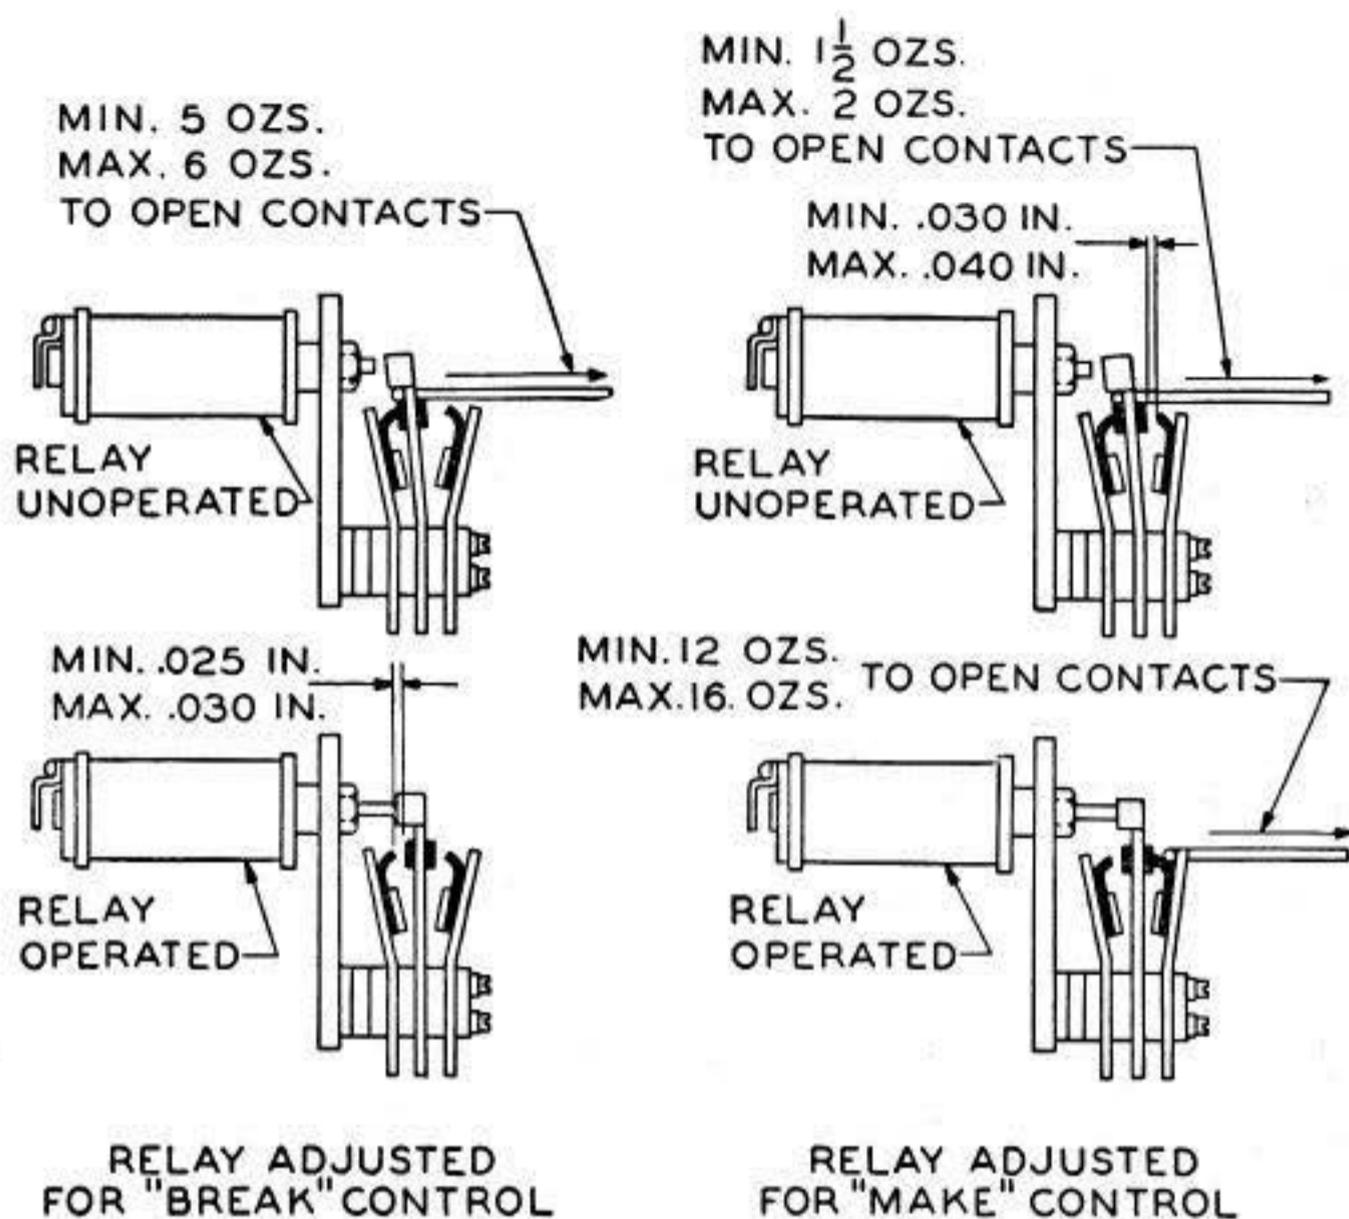

FIG. 1
3.01 Relays adjusted for "break" control should meet the following requirements. See Fig. 1.
3.02 Relays adjusted for "make" control should meet the following requirements. See Fig. 1.